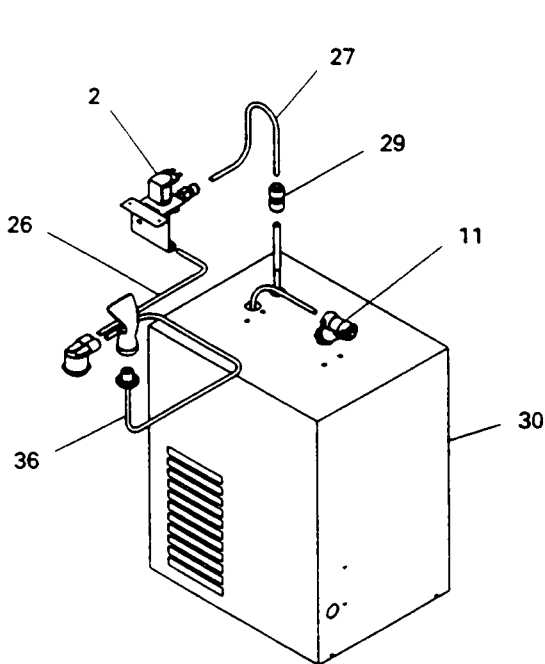

FIG. 3
**Single Fountain Units (See Fig.3)** - Insert end of 1/4" O.D. formed tube (provided) into union on chiller outlet and the other end into straight fitting on solenoid valve assy.